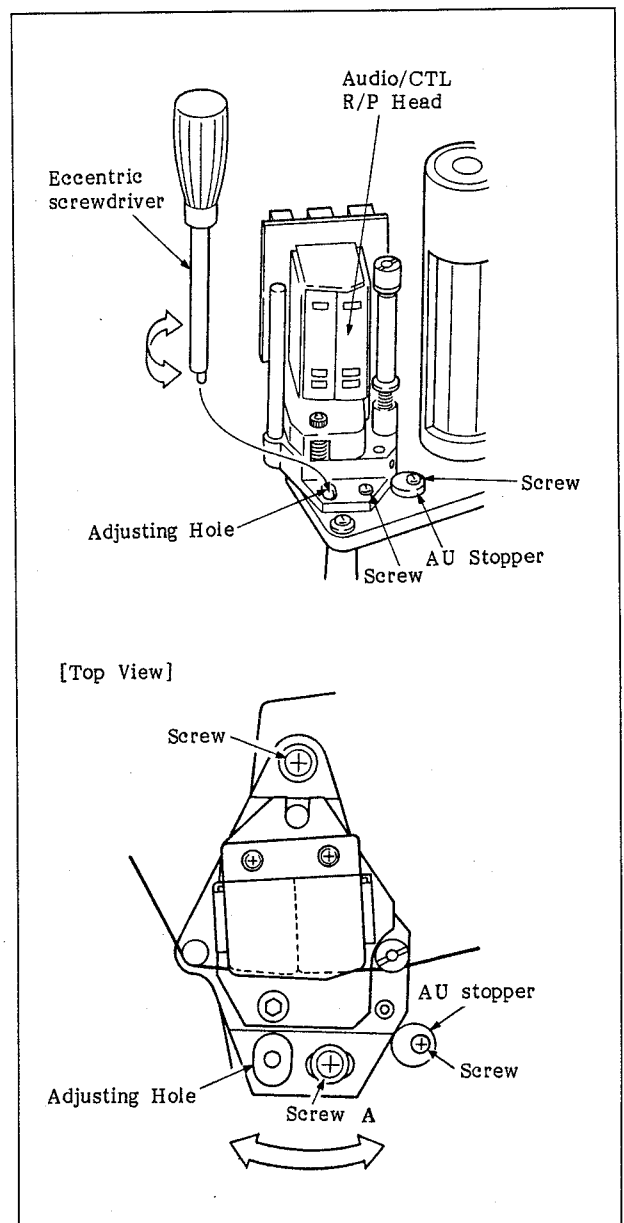
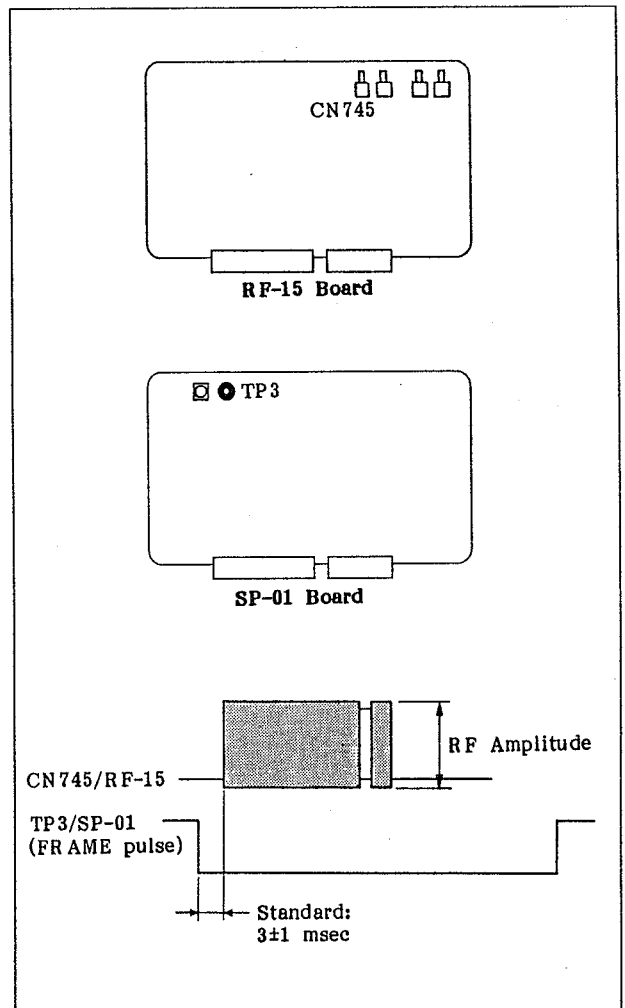

Fig. 9-16 CTL Head Position Adjustment
Fig. 9-20 Pre-PG Phase Adjustment (2)
3. Press the **TEST**, the **F2** (RF) and the **F1** (CONTINUE) keys on the control panel in sequence.
7. Loosen the screw A, shown in the top view of Fig.9-16, which is one of the two screws that hold the stationary head assembly, and the set screw of the AU stopper.
2. Loosen the screws which secure the AU stopper and stationary head assembly. Adjust the position of screw 'A' shown in the top view of Fig. 9-16 by inserting an eccentric screwdriver into the adjusting slot and turning the screwdriver so that screw 'A' comes to the center of the slot.
7. Press the **TEST**, the **F2** (RF) and the **F1** (CONTINUE) keys on the control panel in sequence.
11. Press the **TEST**, the **F3** (CHECKER), the **F1** (CONTINUE), the **F7** (\$), the **F1** (A), the **8**, the **F4** (D), the **0** and the **SET** keys on the control panel in that order.
12. Adjust the the phases of CN745/RF-15 and TP3/SP-01 so that they satisfy the specifications shown in Fig. 9-20 and the RF amplitude becomes maximum by pressing the **<** or the **>** key. When the specifications are met, press the **SET** key to set the machine in STOP mode.